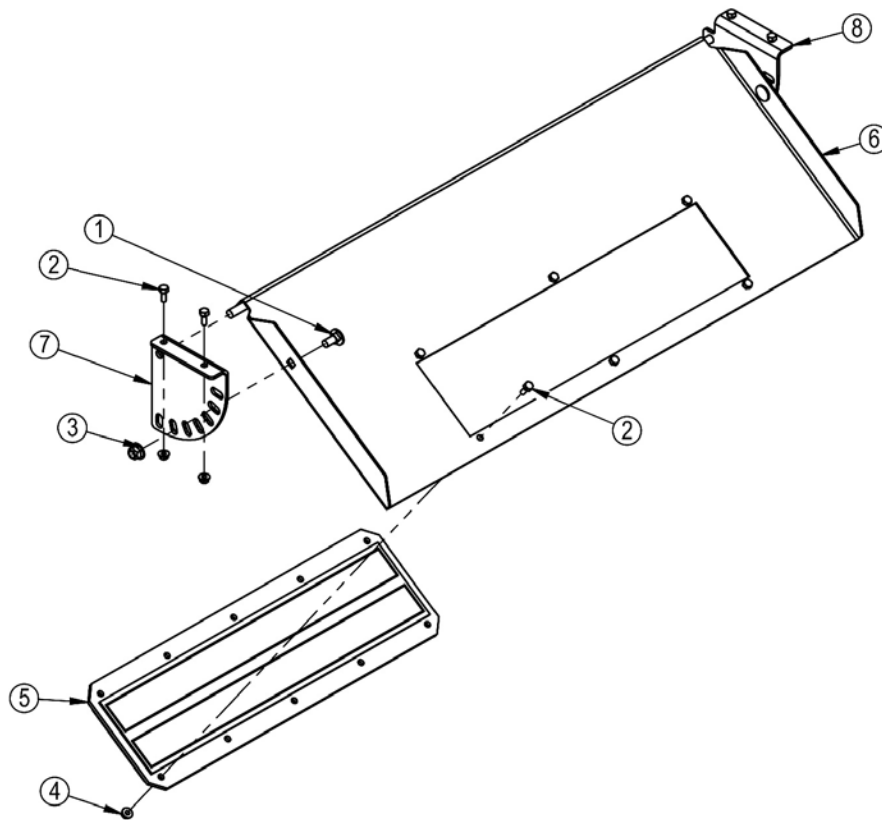

Figure 3: Magnet and Discharge Deflector
3. Attach the left end adjustment bracket (7) onto the bottom of the discharge conveyor, see *Figure 3*.
- Use 2 of 5/16" x 3/4" hex bolts (2) and flange locknuts to fasten in place.